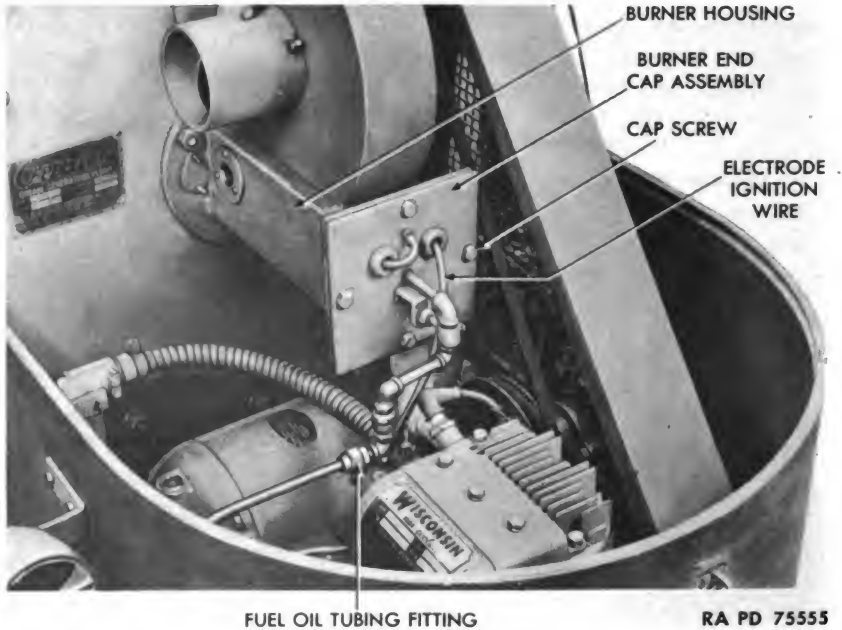

Figure 102 — Burner Installed on Steam Generating Plant
- (2) **ADJUSTMENT OF ELECTRODES** (fig. 102).